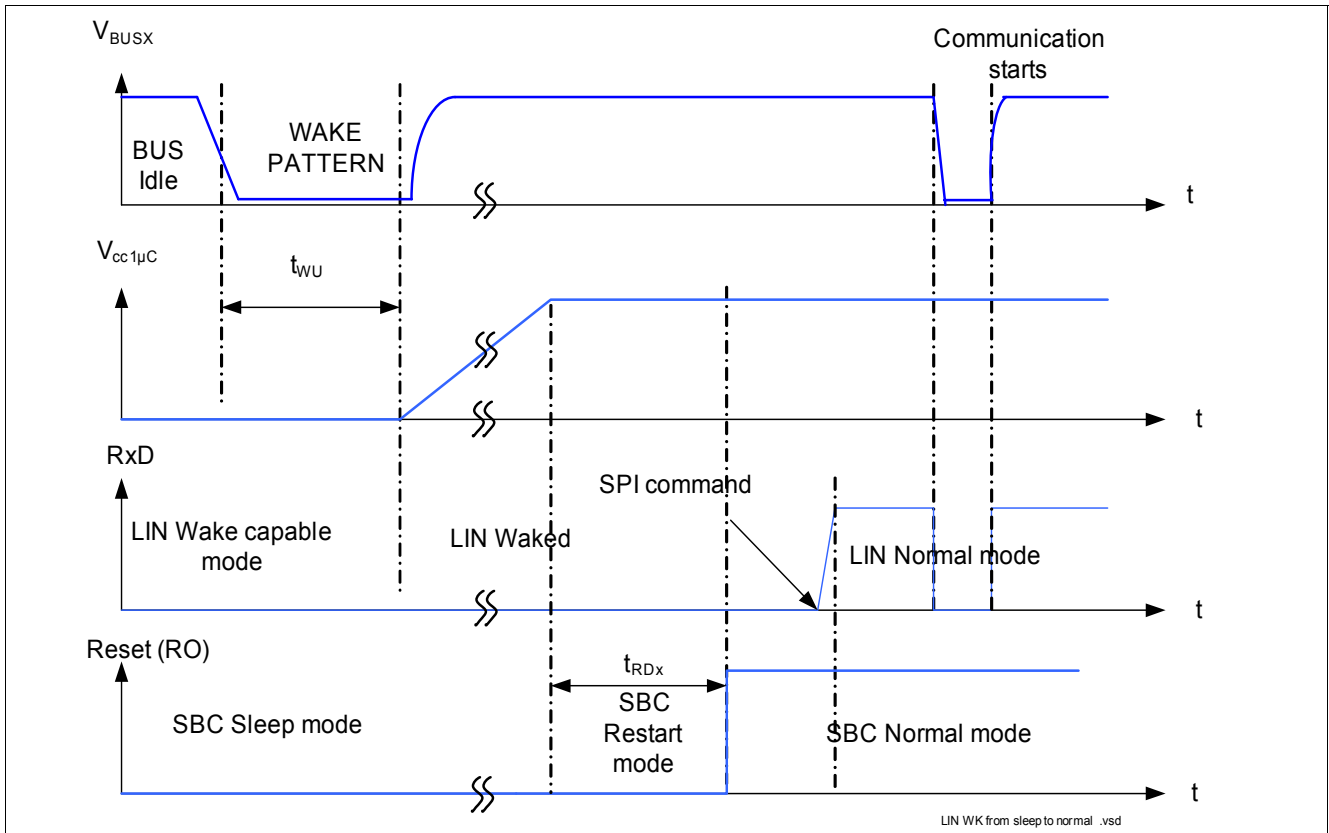

Figure 19 Timing during Transition from SBC Sleep to SBC Normal Mode
Wake-up is possible via a LIN message (filtering time $t > t_{WK,bus}$), it automatically transfers the SBC into the SBC Restart Mode and from there to Normal Mode the corresponding RxD pins in set to LOW, see Figure 19. The microcontroller is able to detect the low signal on RxD and to read the wake source out of the “Wake Register Interrupt” register (000) via SPI. No Interrupt is generated when coming out of Sleep Mode. The μ C can now switch the CAN transceiver into LIN Normal Mode via SPI to start communication.